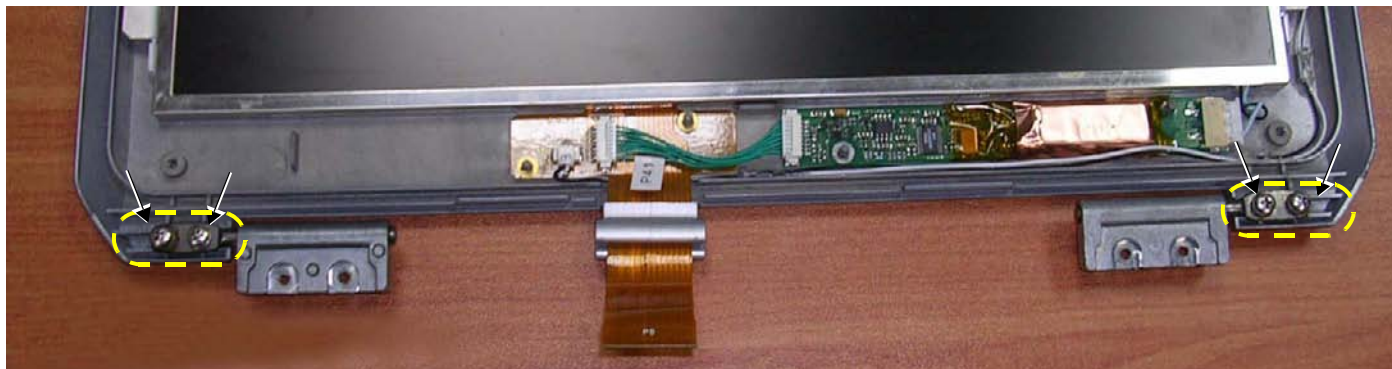

Figure 8-17 Hinges Secured to LCD Display Cover - Location of Screws
- 5.) Loosen and remove the 2 screws that secure the *left* hinge to the LCD Display cover (Figure 8-17), then carefully remove the hinge.
- 6.) Loosen and remove the 2 screws that secure the *right* hinge to the LCD Display cover (Figure 8-17), then carefully remove the hinge.
- 1.) Carefully place a replacement hinge in the correct position on the *right* side of the LCD Display cover (refer to Figure 8-17 on page 8-18). Return and fasten the 2 screws (previously removed) making sure the hinge is properly secured. *Do not over-tighten the screws.*
- 2.) Carefully place a replacement hinge in the correct position on the *left* side of the LCD Display cover (refer to Figure 8-17). Return and fasten the 2 screws (previously removed) making sure the hinge is properly secured. *Do not over-tighten the screws.*